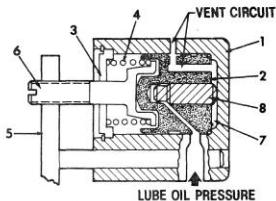

Figure 26 - Dual Piston Excess Fuel Device
To prevent this from happening, a second generation dual piston excess fuel device was developed. In this unit, cranking lube pressure acts upon an area equal to the small inner piston (8, Figure 26), at the bottom of its bore in the larger piston (2). Any seepage of oil around the large piston is dissipated through vents and if high lube oil pressure while cranking or a false start should occur, the increased pressure required to activate the piston is not reached before the engine starts.
- Legend for Figure 26